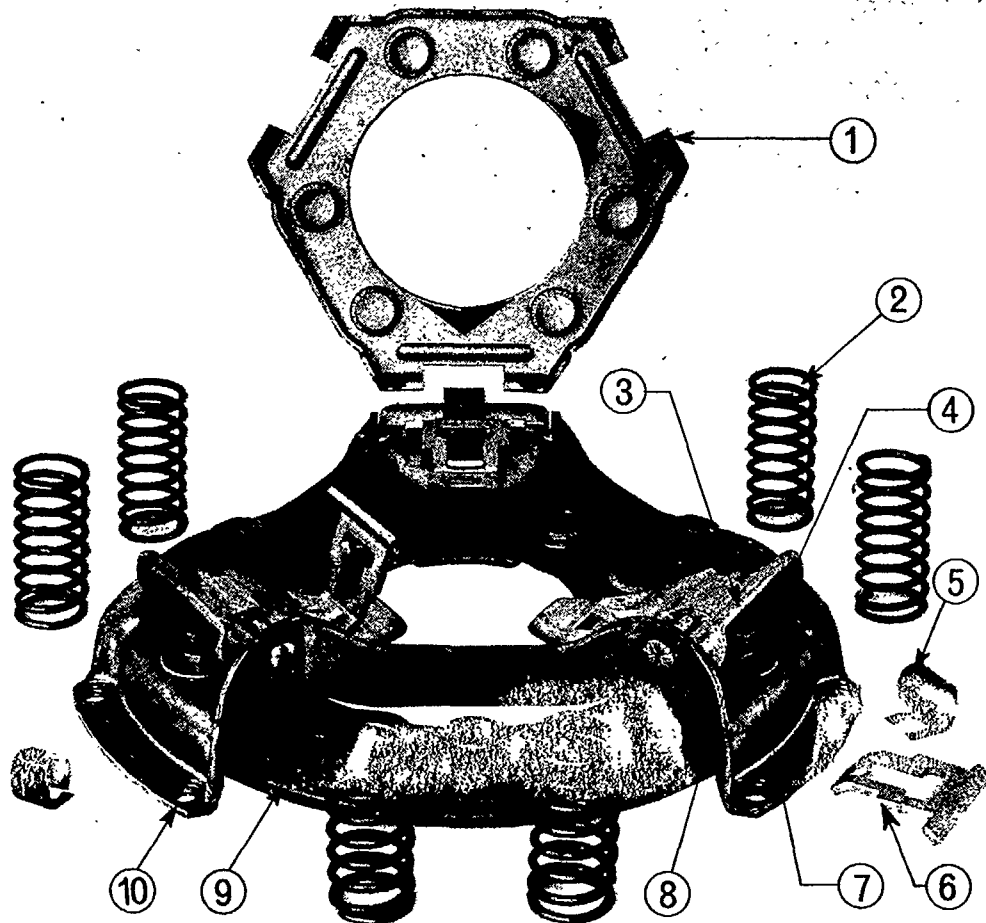

Figure 24
2. Remove the “C” shaped retaining clips, Figure 24, from the release levers using a screwdriver to press down the lower slotted end of each clip and thin nose pliers to pull it free from its location under the head of the release lever adjusting screw. Discard and renew on assembly.
3. Slacken the adjusting screw locknuts, Figure 24, and screw the adjusting screws into the pressure plate to allow the release levers greater movement.
7. Remove the spring retainer, Figure 24, the coil springs and the angle links.
8. Remove the adjusting screws, locknuts and washers, Figure 24, then separate the cover and release lever assembly from the pressure plate by removing the cover to tool base plate retaining bolts.